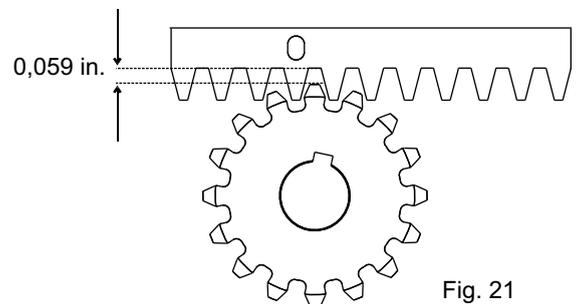

Fig. 21
- 7.6. To avoid that the door weights down on the pinion (Fig.21) lift up the whole rack about 0,059 in.